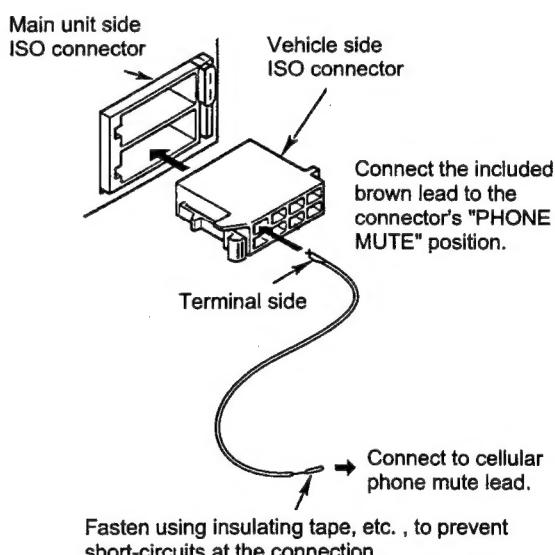

Figure 2
- The lead included with the unit must be connected to the specified position of the vehicle's ISO connector in order to use the "triggered audio mute for cellular telephones" function. (Figure 2)